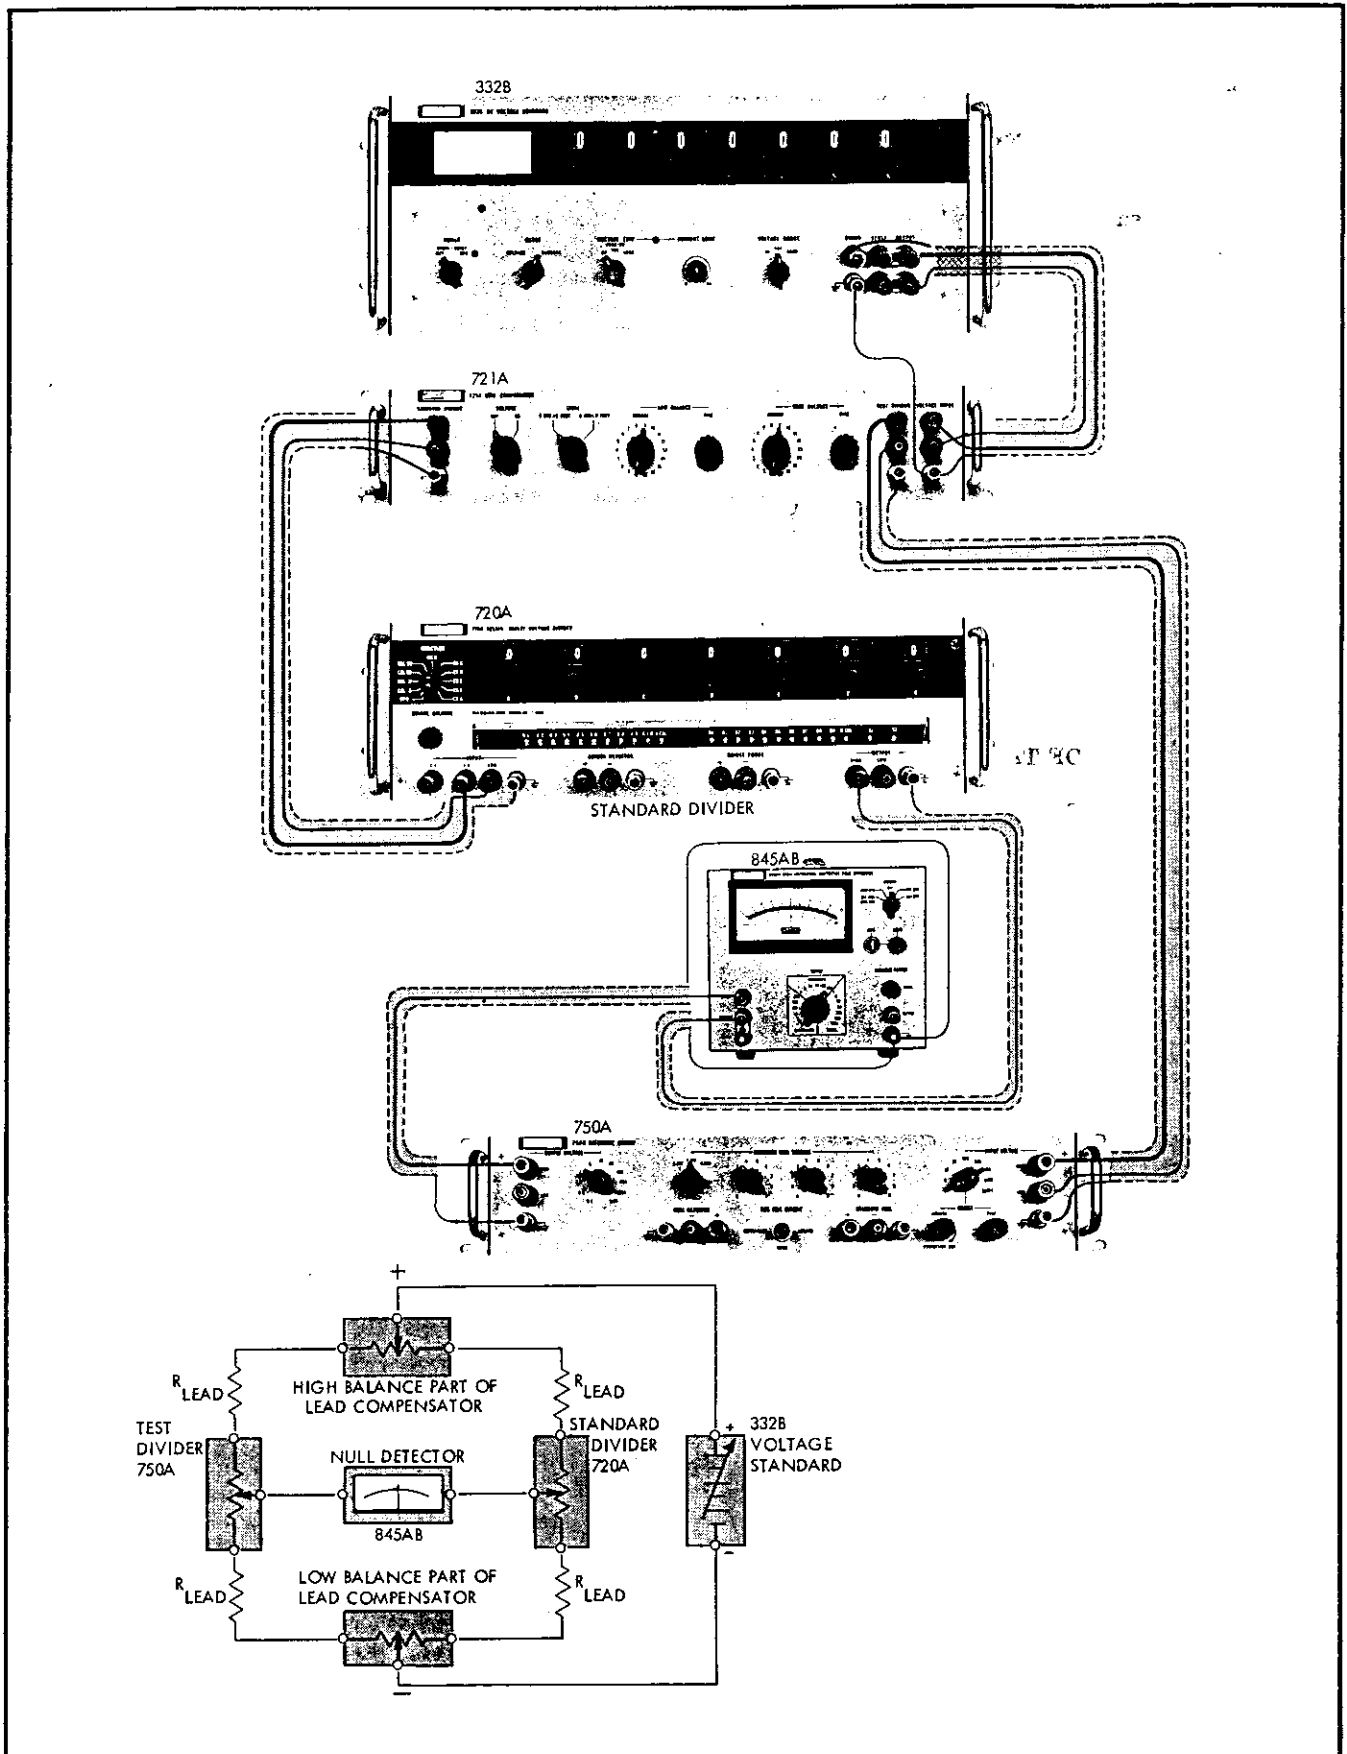

Figure 4-4. EQUIPMENT CONNECTIONS FOR CALIBRATION
- a. Connect the test equipment as shown in Figure 4-4. Use the 1.1 binding post on the standard divider (Model 720A).
- (1) Set the standard divider to 1.099999X.
- (2) Set the Model 750A INPUT VOLTAGE switch and the OUTPUT VOLTAGE switch to 1.1.
- (3) Set the voltage source to 10.99999X volts.
- (4) Set the lead compensator (Model 721A) to R STD > R TEST.